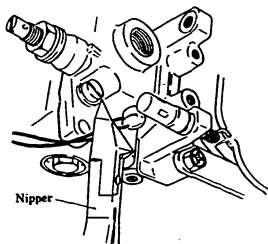

Fig. 9 Cutting the wire
7. Cut off the excess wire using pincers. (Fig. 9)